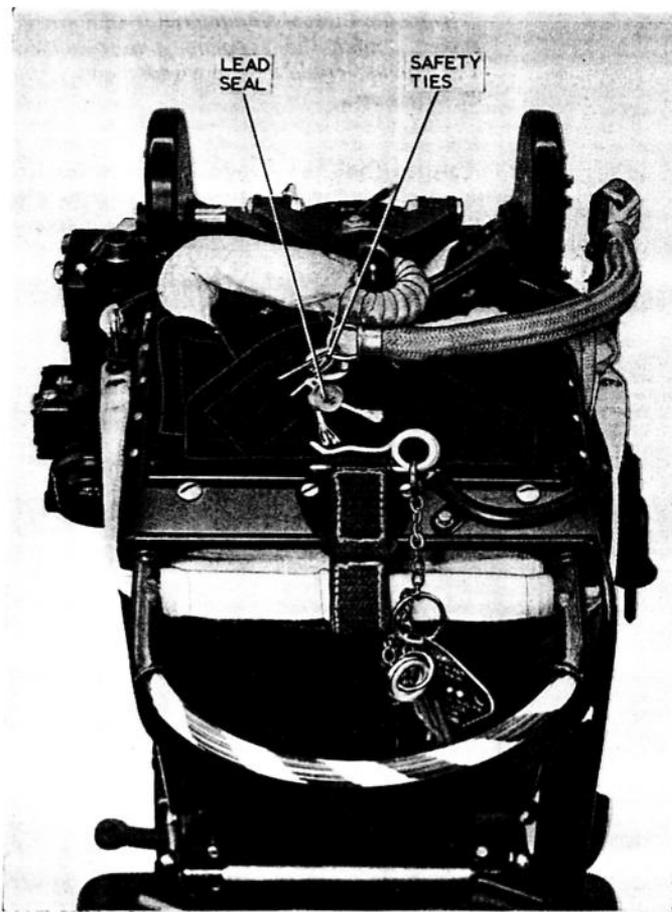

Fig. 3. Safety ties
- (1) Lower the scissor shackle and secure the drogue shackle by a length of No. 8 cord passed through the drogue shackle and under the securing pin (fig. 3); tie off with a reef knot and one or two half-hitches.